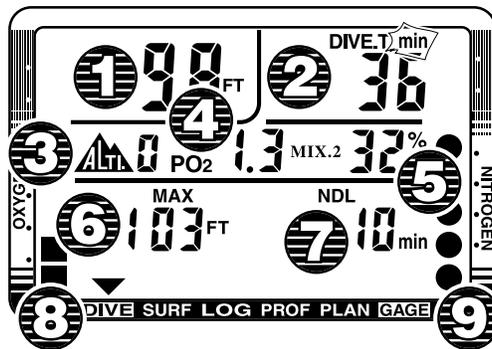

Figure 8: *Dive Mode (No Decompression).*
- ▶ NiTek¹s will emit a three-beep audible signal as soon water immerses all of its exposed electrical contacts. For approximately the next three seconds, its display will continue to show all the information it did while in Surface Mode, plus the current FO₂ setting. The screen will then change to the regular Dive Mode display, described in Figure 8.